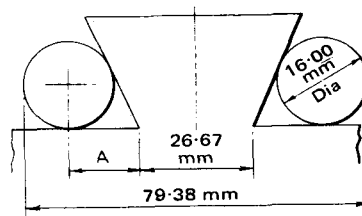

Fig. 1.10
10. Fig. 1.10 shows a method used for checking a dovetail by means of rollers. Calculate the dimension A.